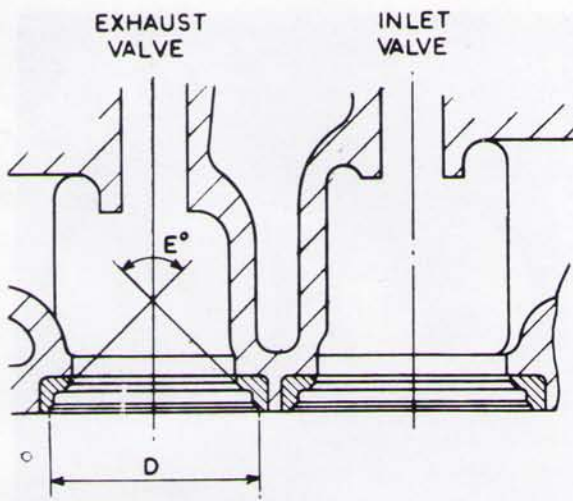

Fig. H.10.
5. Visually inspect to ensure that the insert is pressed in squarely and is flush with the bottom of the recess. See Fig. H.10.